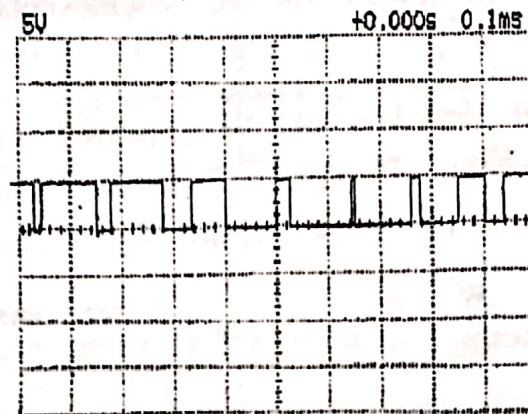

Figure 5-8. TP3's wave form
- (9) Remove CH-1, 2 input probe of oscilloscope connected to TP1 and J1 terminal of PCM I module and connect J1 terminal and J2 terminal.
- (10) Check whether wave form of oscilloscope as figure 5-8 appears on the screen or not, when input probe of oscilloscope CH-1 would be connected to TP3 of PCM I module. At that time, set TIME/DIV of oscilloscope to 0.1[ms].